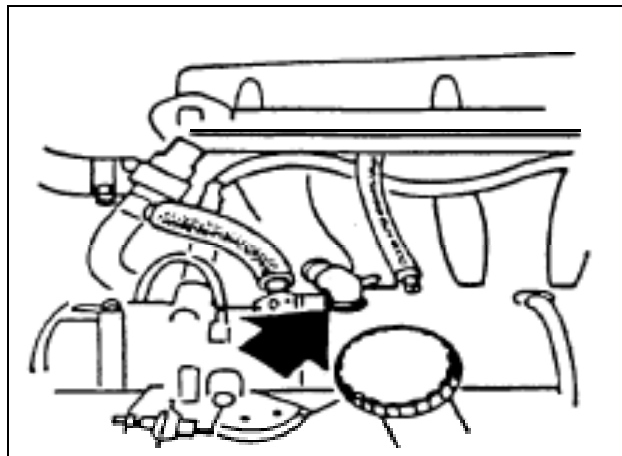

Figure 1. Apply adhesive to the brass fitting and install so that it points towards the idle control valve.
5. Fit the elbow to the manifold so that it points towards the idle control valve (Figure 1).